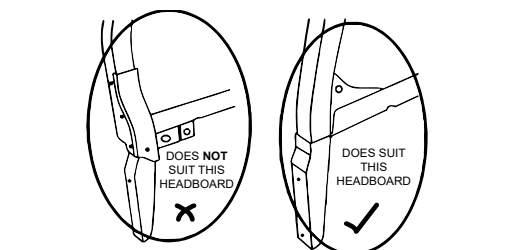

Figure F1
- Measure and drill remaining 5 holes at 262 mm centers and 9mm up from the bottom edge of the rope track as shown in **Figure F1**.